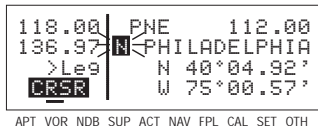

Figure 3-76
4. Change this first character to an "N" in this case (figure 3-76).